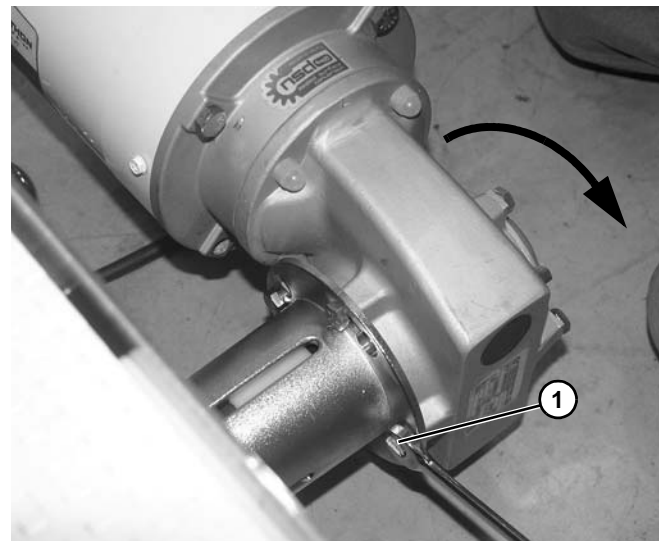

Figure 120
1. Loosen the four screws (Figure 120, item 1). Rotate and remove the gearmotor. (For further detailed instructions, refer to drive package manual 851-947.)